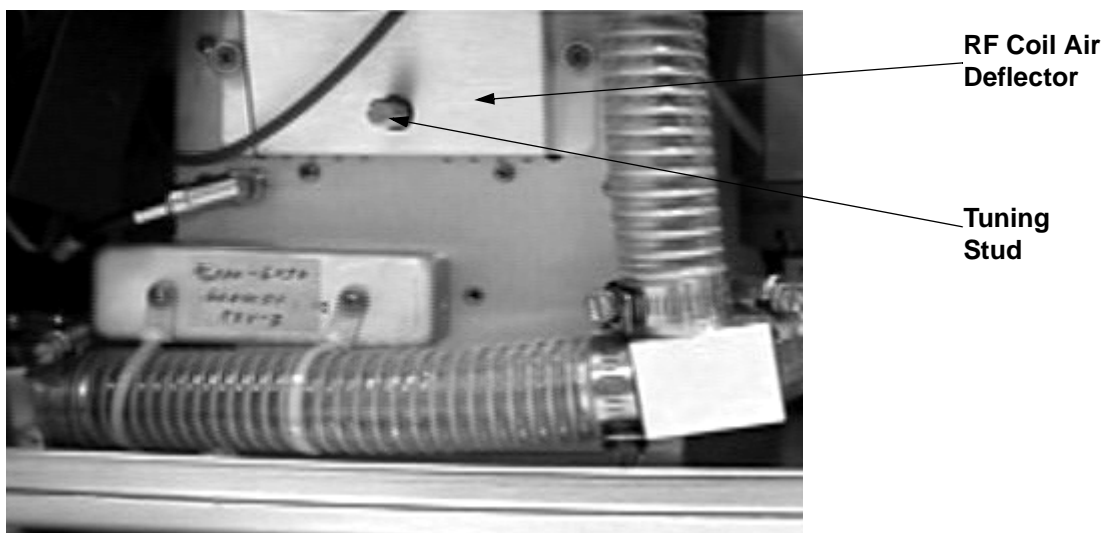

Figure 5-13. Ring electrode RF voltage tuning stud
- c. With a wrench, loosen the 9/16-in. lock nut that holds the tuning stud in place. See Figure 5-13.